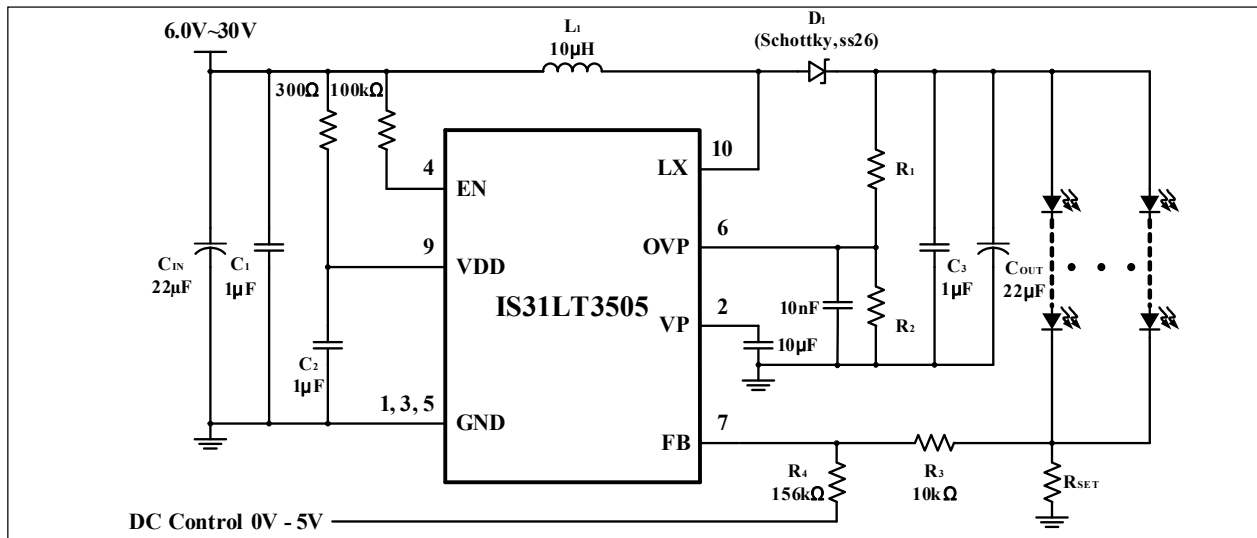

Figure 14 Application Circuit (Constant Current to Drive White LEDs With DC Dimming)
IS31LT3505 can modulate the brightness of LEDs by controlling the DC voltage or the PWM duty cycle (Figure 14, 15).
Figure 14 shows that the intensity of the LEDs can be adjusted by the DC voltage. As the DC voltage increases, the current pass through R3 increasingly and the voltage drop on R3 increases, i.e. the LED current decreases. The LED current can be calculated by the Formula (2). The internal feedback voltage  $V_{FB}$  is 0.3V (Typ.).
When the DC voltage is from 0V to 5V, the value of R3 should be 10kΩ. Refer to Figure 14.